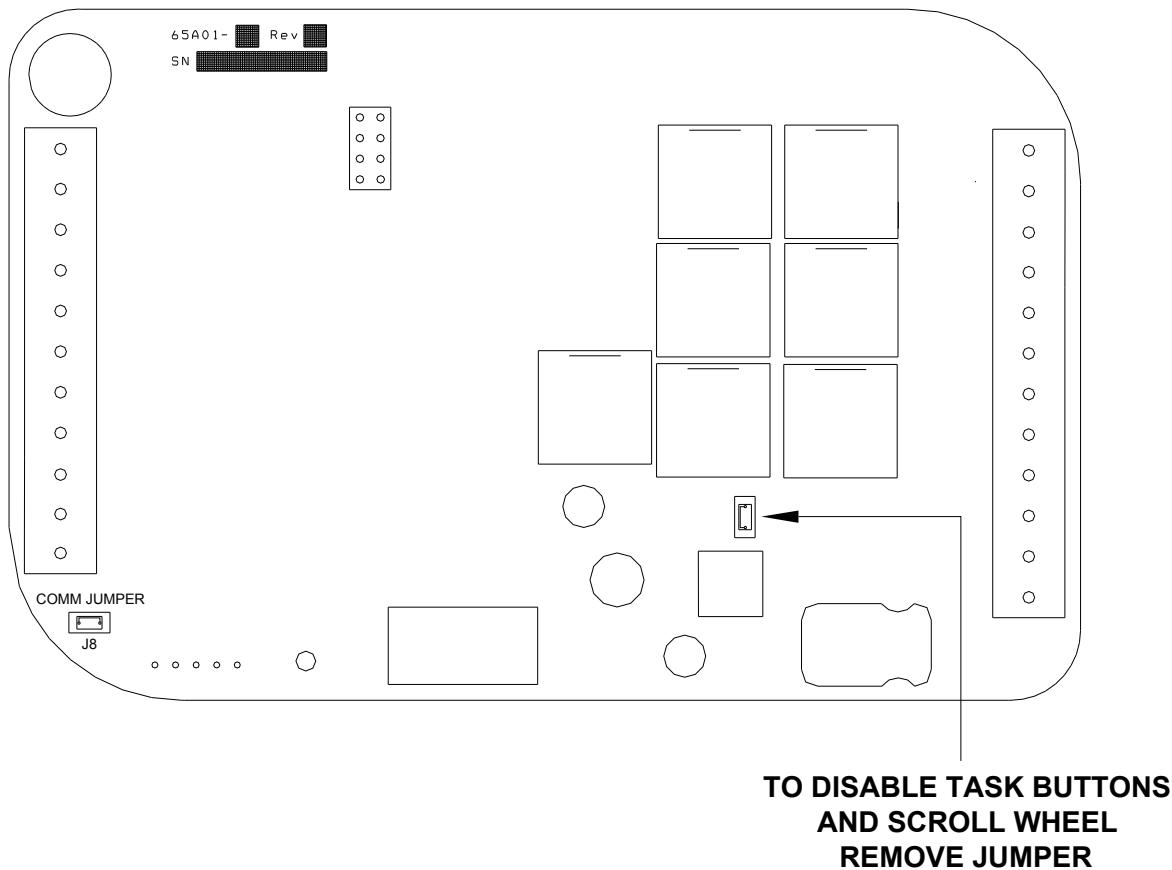

Figure 12 – Local Control Jumper
2. Remove the local control jumper - See *Figure 12*.